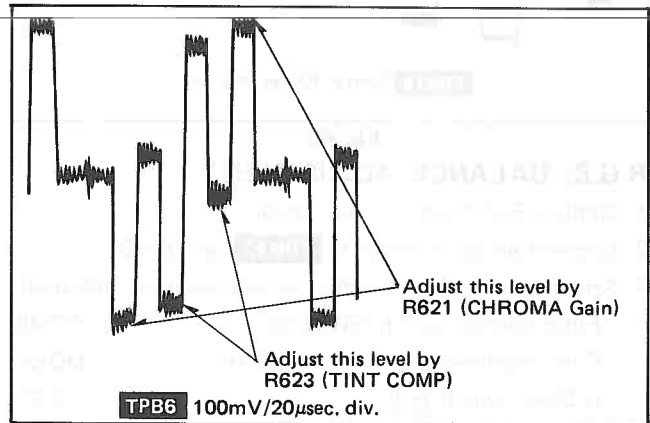

Fig. 38
7. Adjust R621 (CHROMA Gain) and R623 (TINT Comp) so that the waveform at this point of time becomes equal to that recorded in Step (5) as shown in Fig. 38.
9. Confirm that the waveform at this point of time is equal to the waveform recorded in Step (7).